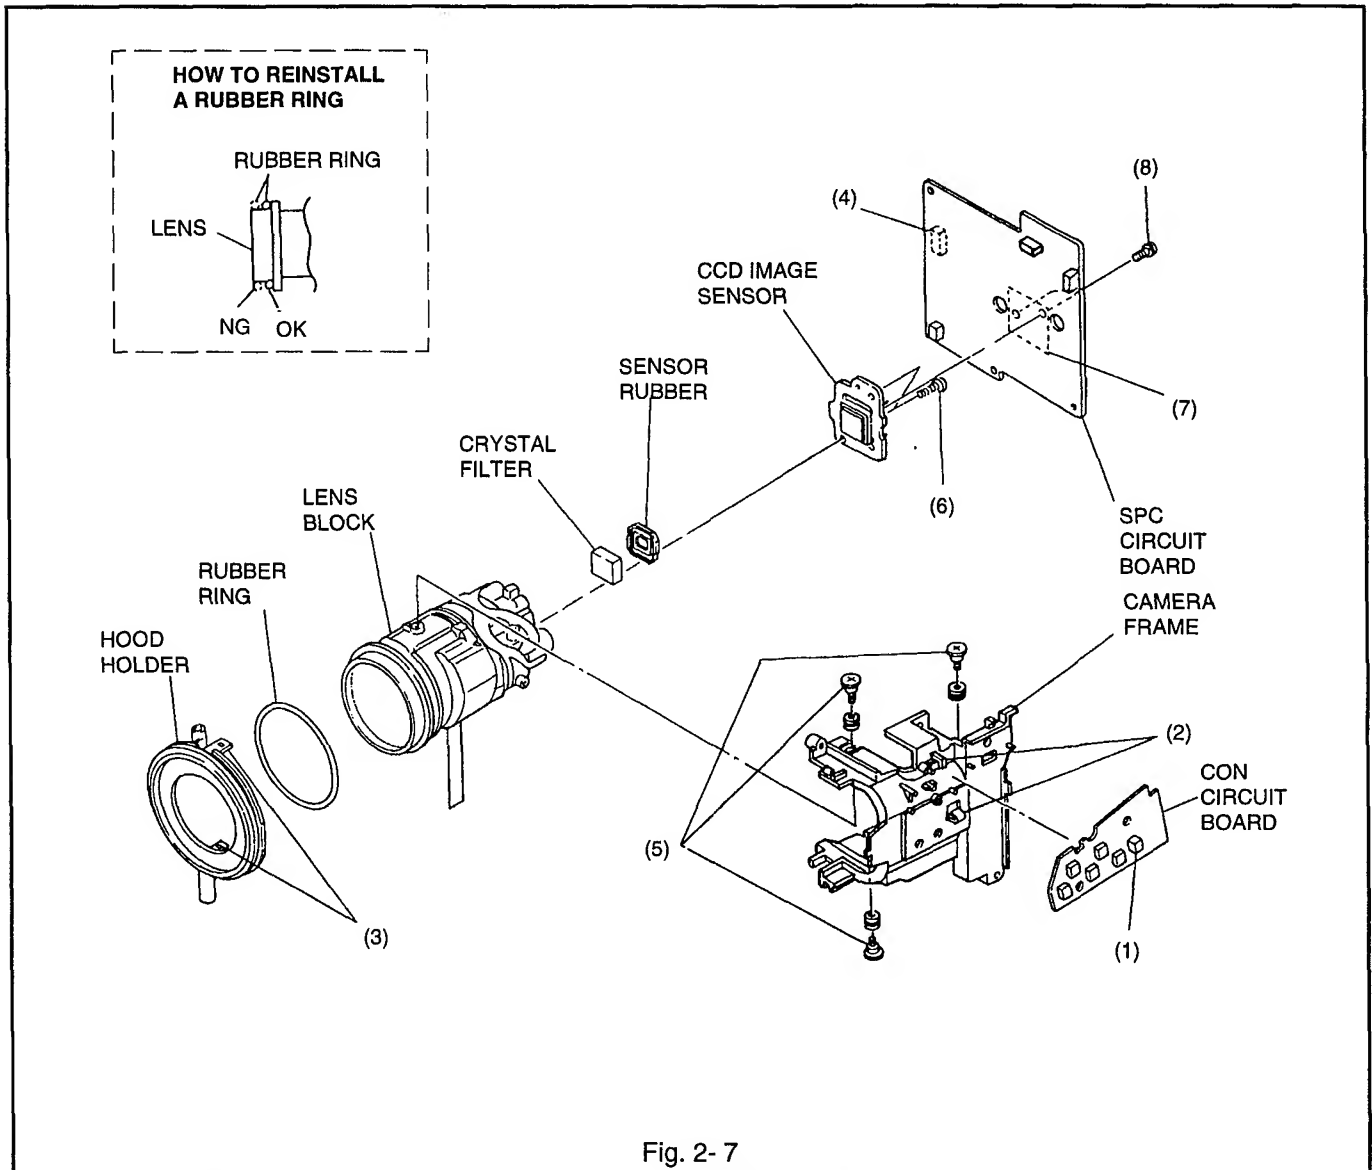

Fig. 2-7
- 1) Release 2 tabs (3) and remove the hood holder.
**Note :** When the hood holder is removed, the rubber ring comes off. See the upper left in Fig. 2-7 for reinstalling the rubber ring.
- 2) Disconnect 1 flat cable (4) on the SPC circuit board.
- 3) Remove 3 screws (5) holding the camera frame.
- 4) Remove 2 screws (6) holding the lens block.